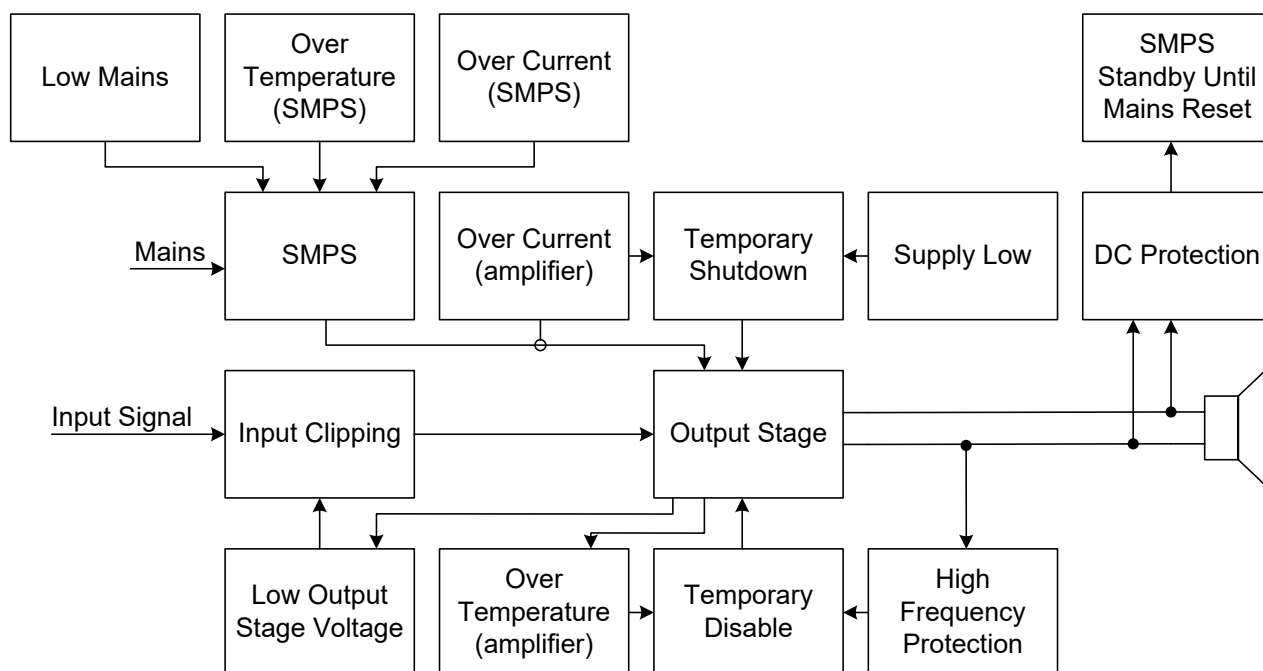

Figure 16: Block diagram of protection features.
- On/Off by control signal: The Auto on/off input pin can also be used to control the standby/on mode via an external control signal. The recommended external circuit for this is illustrated in figure 16. The board will turn on when the external transistor turns on.